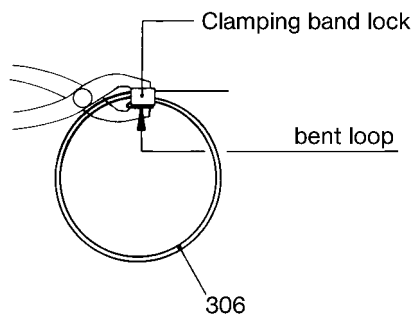

Fig. 8: Press bent loop of clamping band against clamping band lock
- Wind up cover sleeve (308) with screw driver, lift on top with screw driver, lead spray pipe of the oil can under the sleeve and fill the space in the joint with ALLWEILER special joint oil type B or oil ET 1510 ISO 460 of Tribol Lubricants GmbH, Mönchengladbach, Germany. For applications in the food industry fill with ALLWEILER special joint oil type BL or oil 1810/460 of Tribol Lubricants GmbH, Mönchengladbach, Germany. For filling quantities please refer to the table in Section 7.1.2.4.
- Check whether the bent loop of the clamping band (306) rests against the lock of the clamping band. If not, press it against the same by means of commercially available flat pliers. Please see Fig. 8.